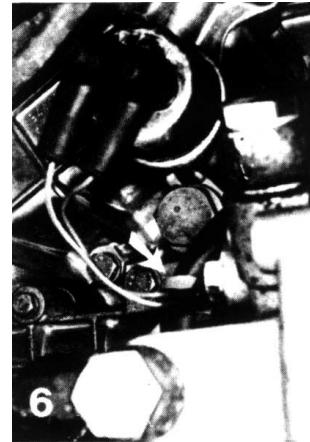

Figure 6
20. Route wiring between belt cover and cylinder head parallel to the oil pressure switch wiring harness. Reinstall fuel rail cover (Figure 6).